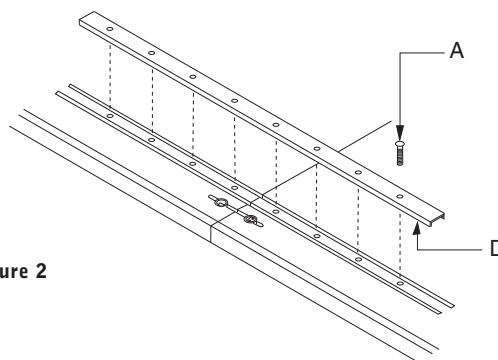

Figure 2
5. Flush the edge of the sections and tighten fasteners with rod provided (C). Do not over tighten
6. As shown in Figure 2, align holes in the channel brackets (D) with threaded inserts in the top sections. To fasten the channel brackets, start threading the 3/4" bolts (A) by hand. This will prevent cross-threading the bolt into the inserts, which may cause damage to the table tops.